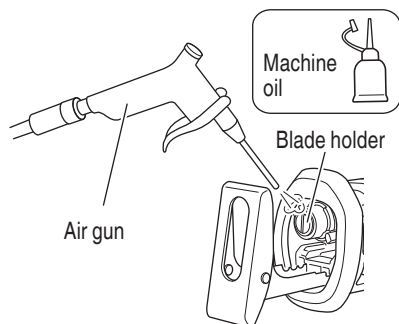

Fig. 6
- (1) After use, blow away sawdust, earth, sand, moisture, etc., with air or brush them away with a brush, etc., to ensure that the blade mount can function smoothly.
- (2) As shown in Fig. 6, carry out lubrication around the blade holder on a periodic basis by use of cutting fluid, etc.